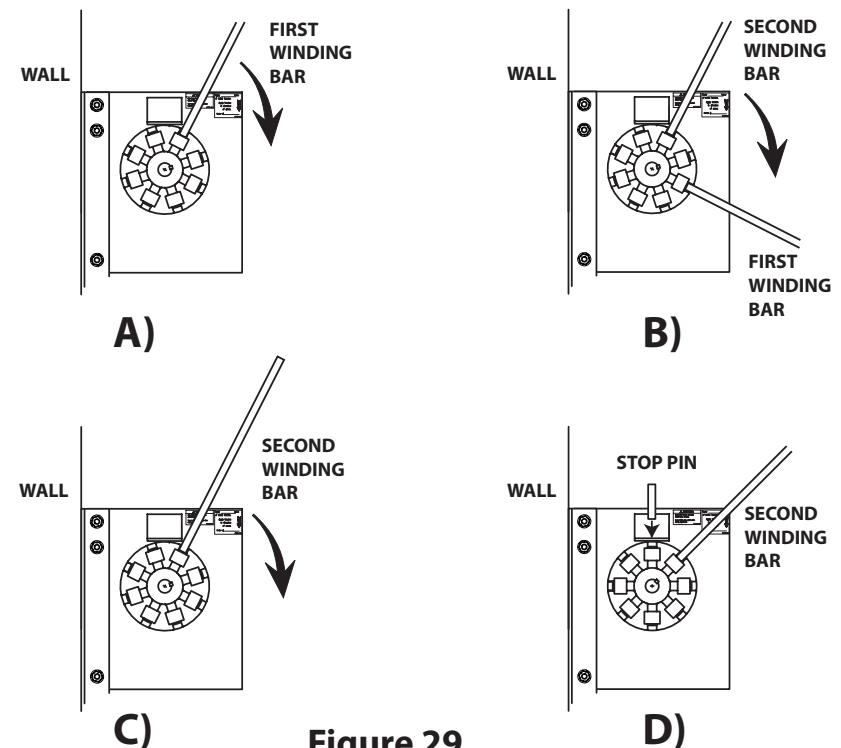

Figure 29
- If guides are flared, then bolt the middle angles and the outside angles to the wall angles like Figure 29.
- Insert winding bar into tension wheel and pull down. See Figure 29 A.
- Hold first bar and insert second bar into tension wheel. See Figure 29 B and C.